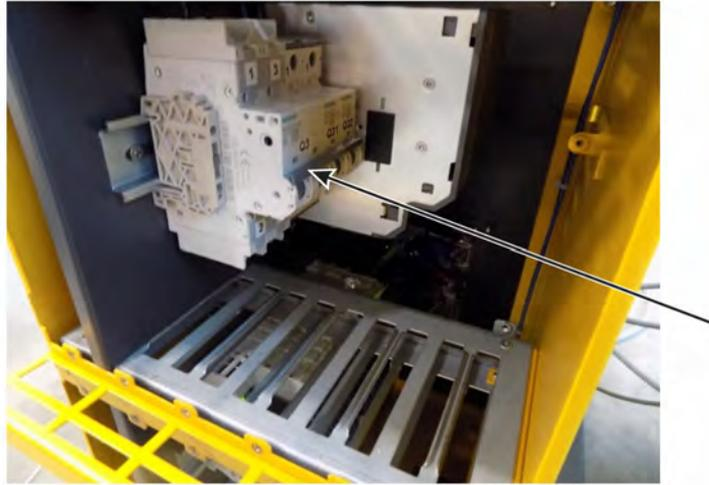

Figure B-3 Circuit breaker Switches in the ON (Up) Position
3. Move the tripped circuit breaker to the ON position (Figure B-3).